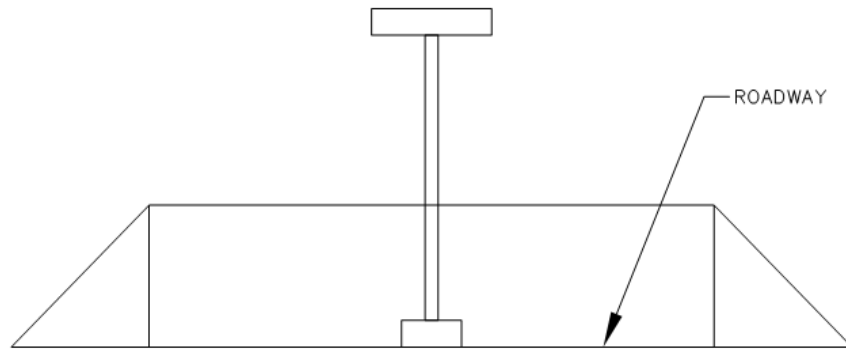

Figure 7 Test location if Roadway on Bottom
14. The bridge must be designed as to allow for the testing of the roadway at the middle of the structure. See Figure 7 and 8